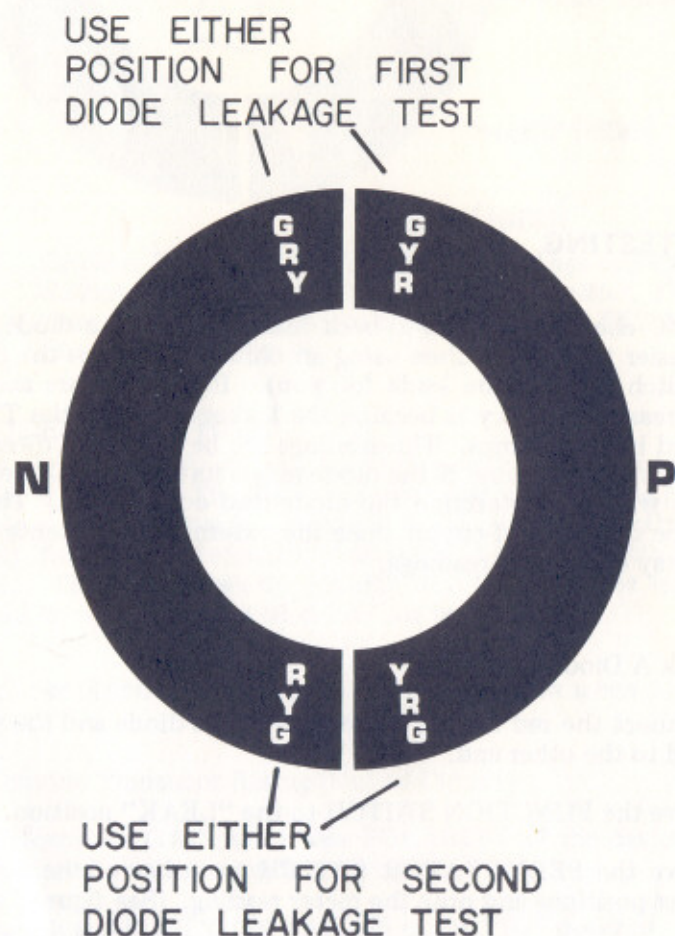

Fig. 11 Permutator Positions for Diode Test
3. Move the PERMUTATOR SWITCH to either of the two top-most positions and note the meter reading. (See figure 11).
4. Rotate the PERMUTATOR SWITCH to either of the two bottom-most positions and note the meter reading. (See figure 11).